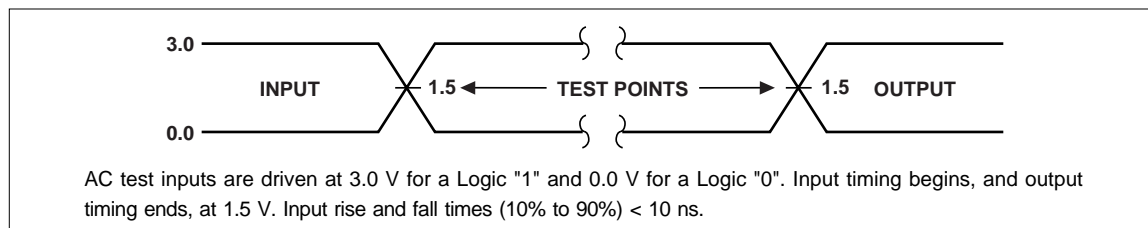
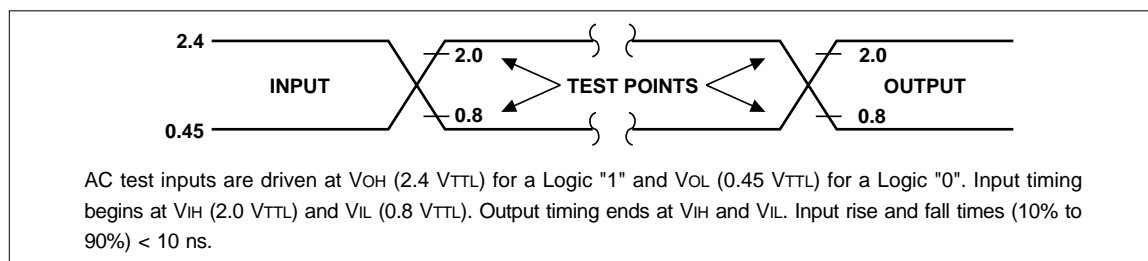
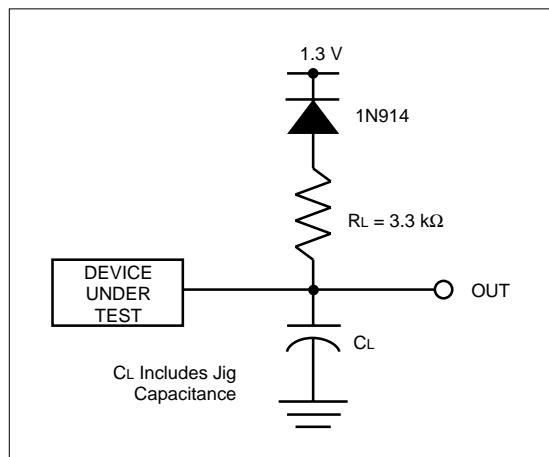

Fig. 9 Transient Input/Output Reference Waveform for $V_{CC} = 5.0 \pm 0.25\text{ V}$ (High Speed Testing Configuration)
Fig. 10 Transient Input/Output Reference Waveform for $V_{CC} = 5.0 \pm 0.5\text{ V}$ (Standard Testing Configuration)
Fig. 11 Transient Equivalent Testing Load Circuit
1. See AC Input/Output Reference Waveform (Fig. 9 and Fig. 10) for maximum allowable input slew rate.
4. See Fig. 9 "Transient Input/Output Reference Waveform" and Fig. 11 "Transient Equivalent Testing Load Circuit" (High Speed Configuration) for testing characteristics.
5. See Fig. 10 "Transient Input/Output Reference Waveform" and Fig. 11 "Transient Equivalent Testing Load Circuit" (Standard Configuration) for testing characteristics.